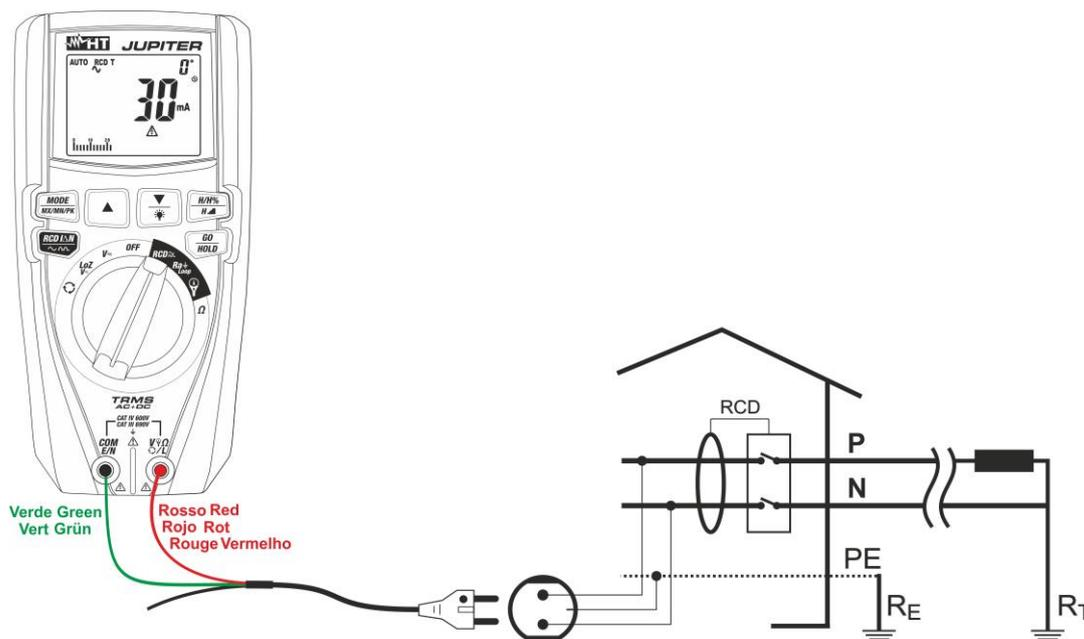

Fig. 29: Use of the instrument for RCD test on single-phase system with cable provided with Schuko plug
6. In case the cable with Shuko plug is used, insert the red conductor into input terminal **V Ω L** and the green conductor into input terminal **COM/E/N** and connect the instrument to the system to be tested (see Fig. 29). The presence of phase-to-earth voltage is shown in the bargraph